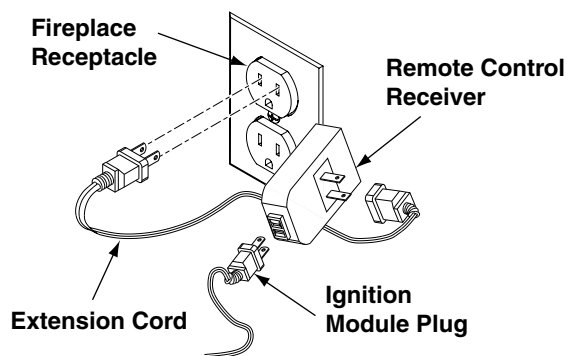

Figure 20 - Connecting WRC Remote Control Electronic
2. The WRC model receiver does not require a battery. The receiver can be installed by first plugging the short extension cord into the fireplace receptacle. Then plug the receiver unit into the extension cord. Finally plug the ignition module plug into the receiver unit (see **Figure 20**).